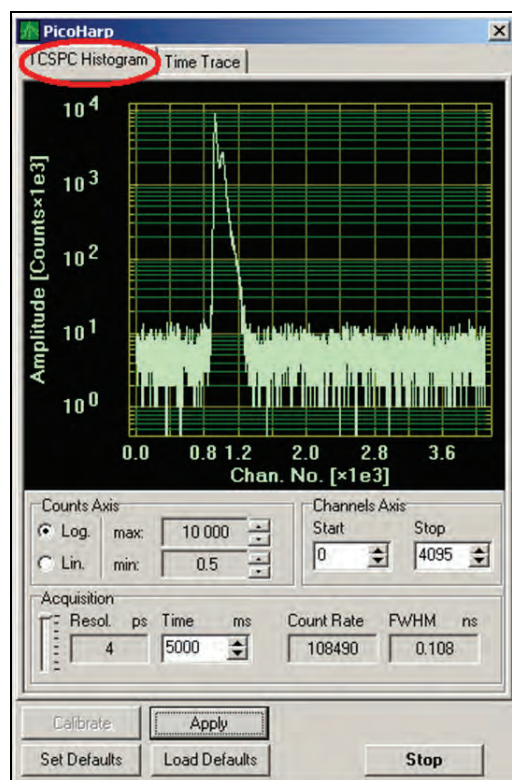

Figure 152: IRF oscilloscope window, acquired with PH300, APD of type MPD and PQ laser source
8. Select the **TCSPC Histogram** tab, select **Start** and monitor the fading of the fluorescence as shown in **Figure 152**. In the oscilloscope window, the time width per channel can also be set.